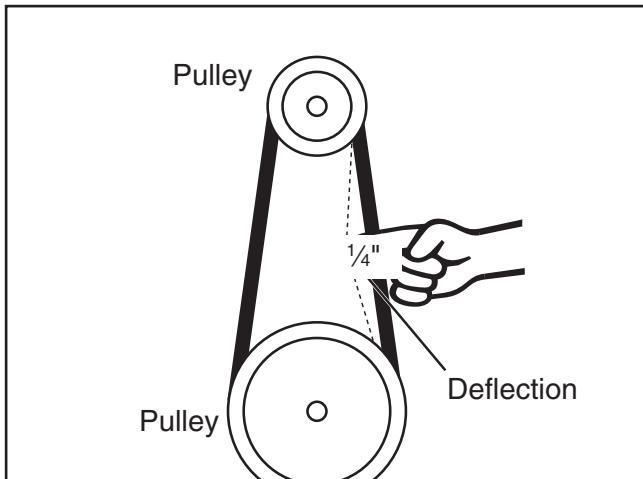

Figure 84. Checking belt tension.
5. Push the center of the V-belt with your finger to check belt tension. The belt is correctly tensioned when there is approximately $\frac{1}{4}$ " deflection when it is pushed with moderate pressure, as shown in **Figure 84**.